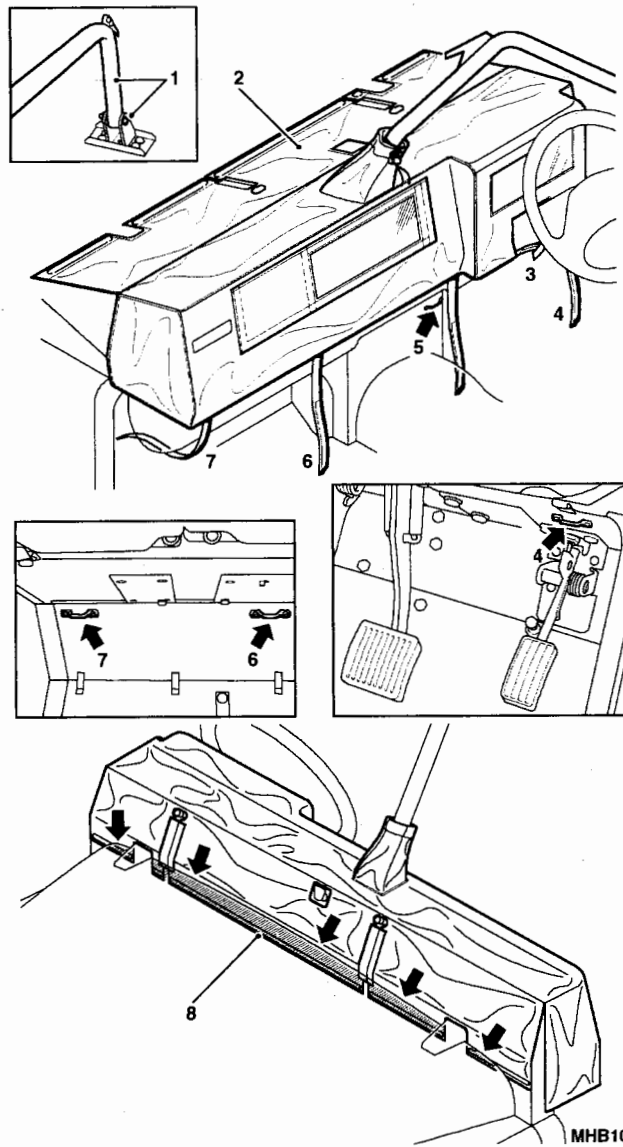

Fig 17 Shower proof dash cover
- 31.2 Release the wire cutter from the dash mount (Fig 17 (1)).